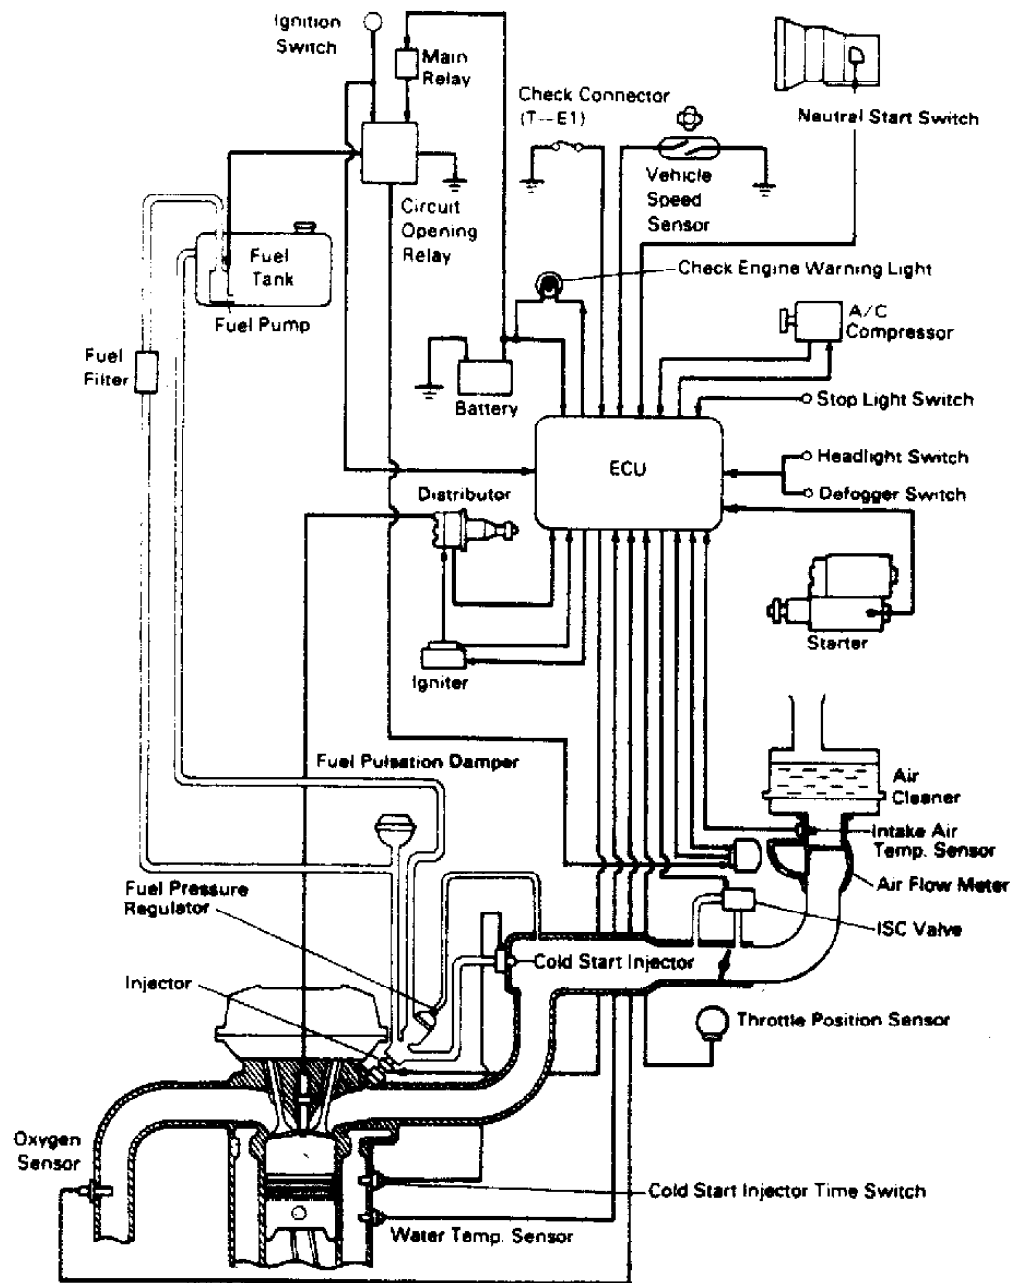

Fig. 6: 3S-FE 2WD Computer Control System
**NOTE:** The following data sensors are not necessarily used on every model. Note engine application. See TOYOTA ENGINE CODE IDENTIFICATION chart and appropriate computer control system schematic. See Figs. 6 through 8.